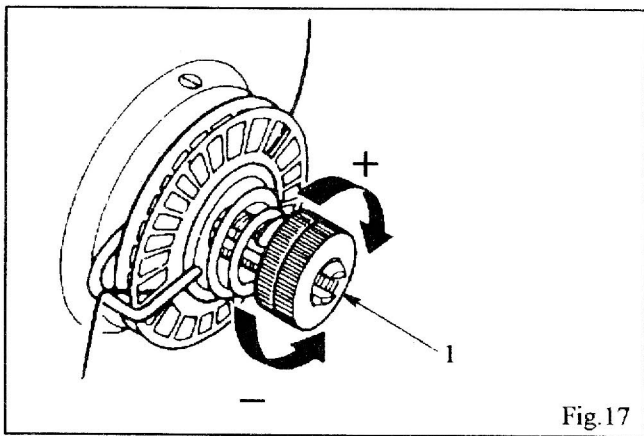

Fig. 17
Regulate needle thread tension with tension regulating thumb nut (1) as shown in Fig. 17.